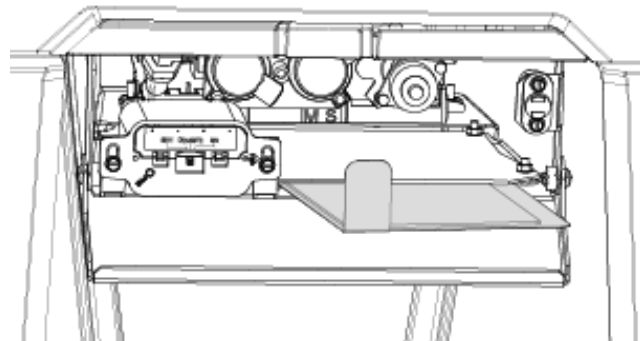

Figure 7.5. Pull rating plates out of the way.
- Pull the Rating Plates out from the control cabinet, fig. 7.5.